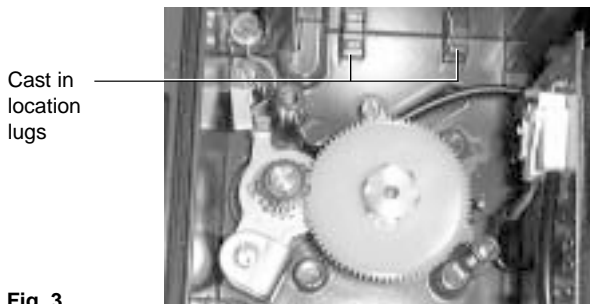

Fig. 3
2.2.4 Locate the edge of the options PCB in the two cast-in location lugs at the base of the SP2 case (refer to Fig. 3).